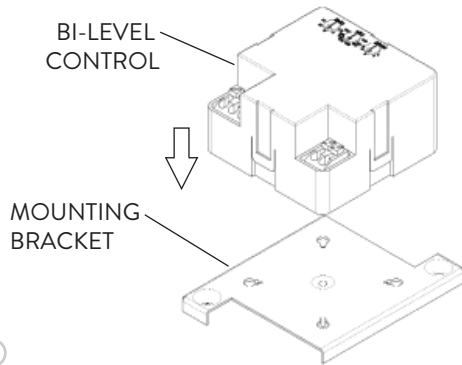

FIG. 11
- The Mounting Bracket is pre-installed and secured to the inside of the FSLA/2 fixture. The Bi-Level Occupancy Control fits directly on the Mounting Bracket (Fig. 11).